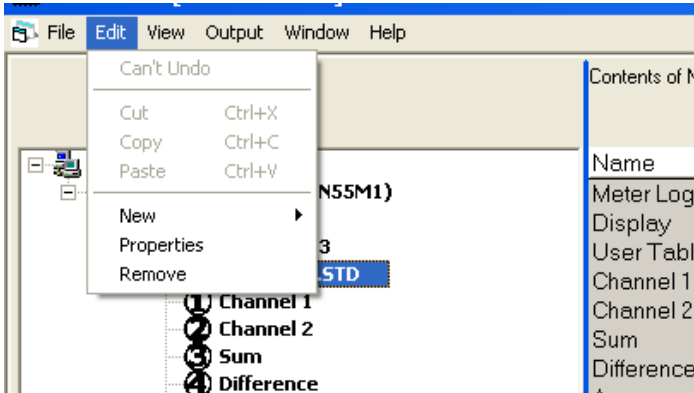

Figure 49: Properties option
2. Right-click on the highlighted XGF868i and select the *properties* option, as shown in *Figure 49* below.